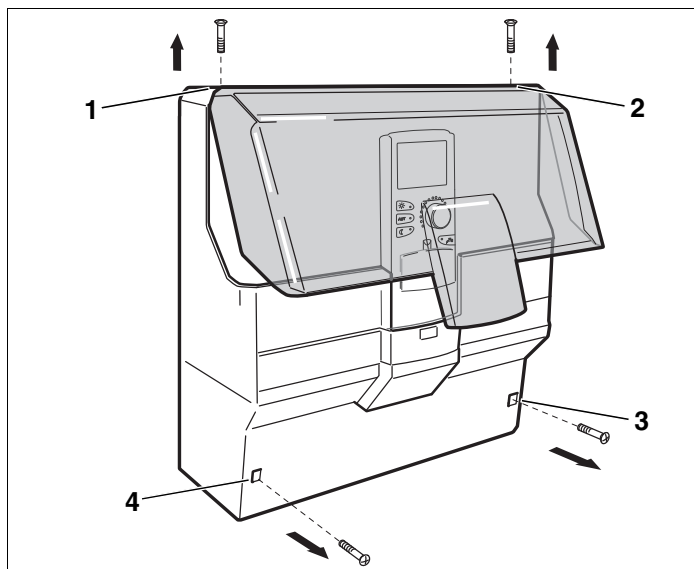

Fig 2 Removing covers
- Unscrew 2 screws on the upper housing cover (→ Fig. 2, [1] and [2]).
- Unscrew 2 screws on the cable cover (→ Fig. 2, [3] and [4]).